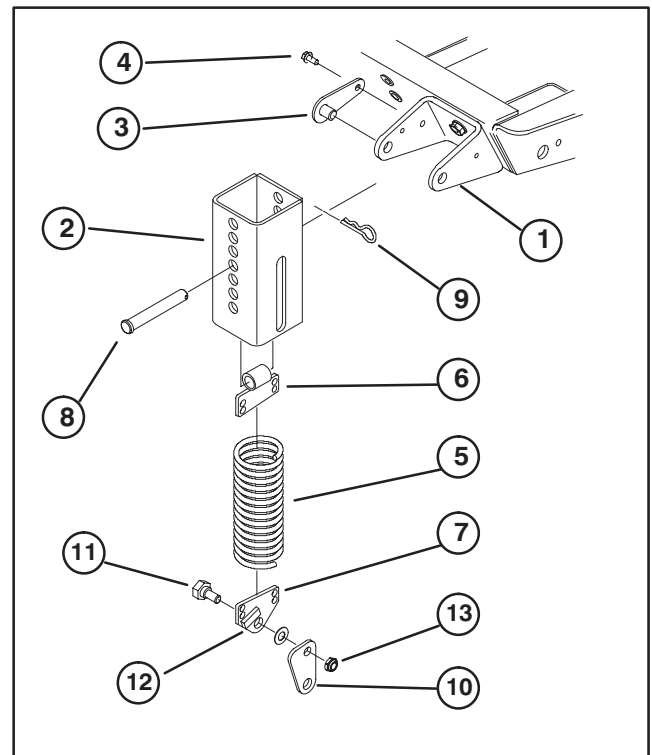

Figure 9
4. Thread the top extension spring coil into the top spring end holes and the bottom extension spring coil into the bottom spring end holes (Fig. 9).
5. Mount knee link to lower spring end with wide part of knee link pointing forward and spring end stop pointing forward. Secure knee link to outer side of spring end with a shoulder bolt, washer and locknut (Fig. 9, 10).
7. Align slotted holes in the spring cover (slot toward the bottom) with the mounting bracket holes. Insert lock pin assemblies into the bracket holes and secure each to the bracket with self-tapping screws (Fig. 9). Torque the screws to 20 ft–lb.
8. From the bottom, insert the spring and top spring end into the spring cover. Select a hole that matches the cutter deck height—of—cut setting; i.e., top cover hole matches the highest height setting, bottom cover hole the lowest, etc. Align the top spring end hole with the selected spring cover holes and insert the clevis pin to secure the spring inside the cover (Fig. 9). Secure clevis pin with a hair pin cotter.